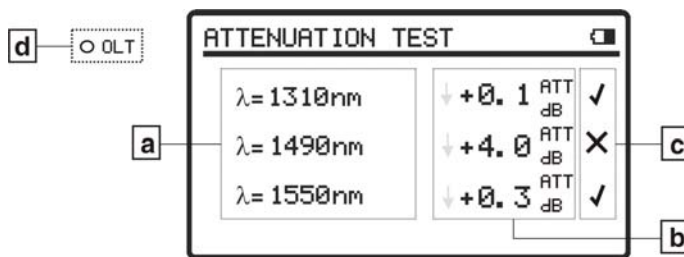

Figure 7.- **ATTENUATION TEST** Screen.
- 3.- Press **SEL**  [4] to get into this function (see figure 7).